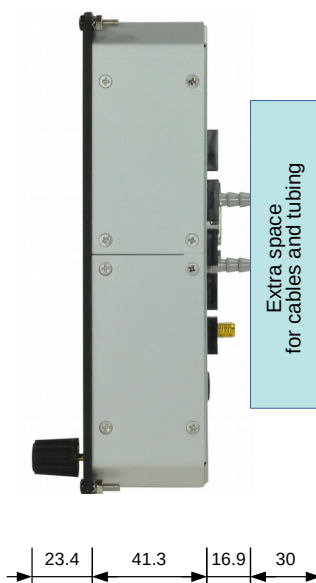

Figure 2.1: Nesis side view with dimensions.
- The display housing extends behind instrument panel and some extra space must also allocated for the connectors, cables and tubes. See Figure 2.1 for more details.
The display main dimensions are shown in Figures 2.1 – 2.3.